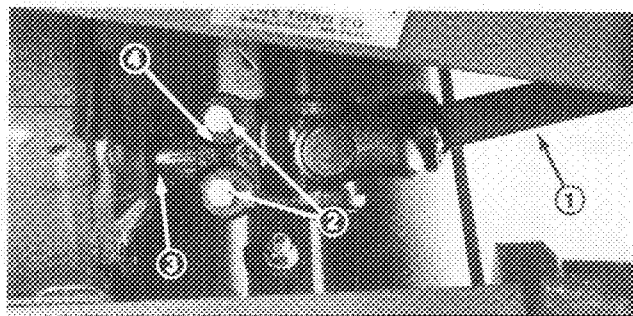
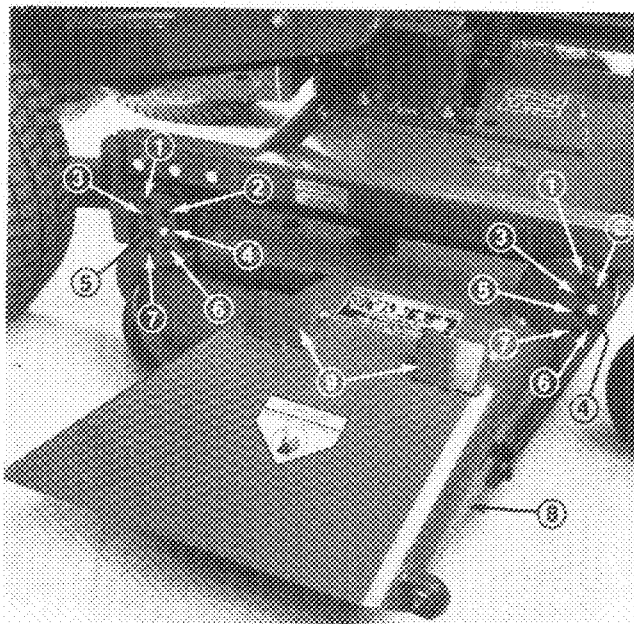

Figure 3
Figure 4
2. Stop engine, remove clevis pins and hairpins from forward and rear height-of-cut brackets (Fig. 4), install cutting unit under carrier frame, align gearcase input shaft with PTO shaft and install shaft (Fig. 3).
3. Lower frame, align PTO shaft hole with gearcase input shaft hole and install roll pin (Fig. 3).
4. Install clevis pins through desired height-of-cut bracket holes and frame to secure cutting unit to frame (Fig. 4). Secure all four pins with hairpins.